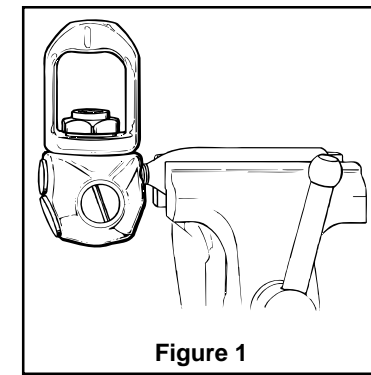

Figure 1
2. Secure the vise mounting tool in a bench vise, with the first stage positioned vertically so the yoke(2) faces up. (See Fig. 1.)